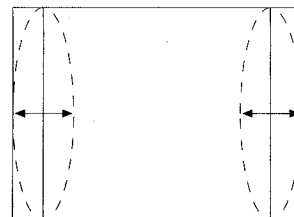

Fig. 4
- Adjust the E-W PARABOLA to obtain condition as (fig. 4).